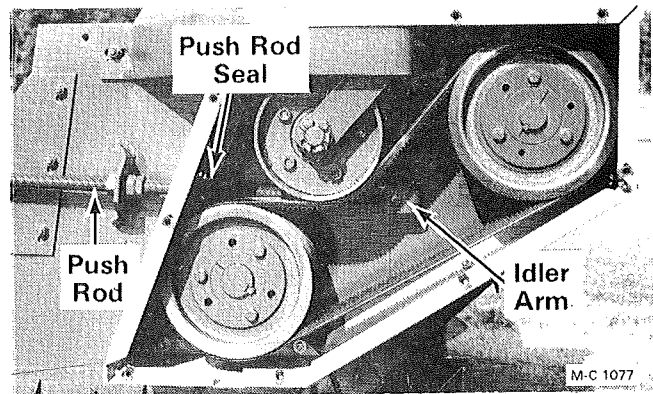

Figure 31 - Idler Push Rod Ass'y.
4. Remove the idler push rod seal, see Figure 31. Disconnect the idler push rod at the idler arm.